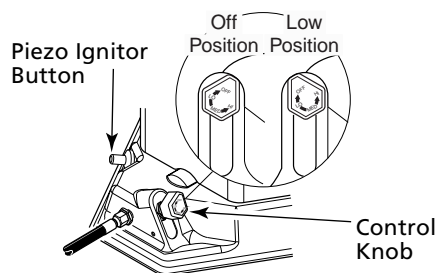

Figure 5 - Control Knob, and Piezo Ignitor Button Locations
5. Slightly depress and turn control knob counterclockwise to the low position (See Figure 5).
8. When burner remains lit, set heater at the desired heat level by slightly depressing the control knob and turning counterclockwise to the Medium or High settings (see Figure 5).